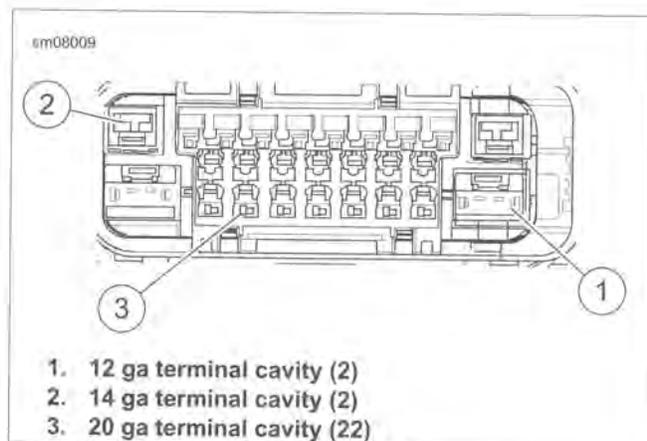

Figure A-10. Bosch BTC Sealed Connector Terminals
See Figure A-10. The Bosch BTC Sealed connector has three sizes of terminals: 12 gauge, 14 gauge and 20 gauge.
- b. See Figure A-10. Insert TERMINAL EXTRACTOR TOOL (Part No. B50085) into cavity next to terminal being removed. Carefully pry terminal latch back. Grasp wire and gently pull terminal from terminal cavity.
- c. When all terminals are in place, use the blade of a small flat screwdriver to pry the terminal lock closed (1).